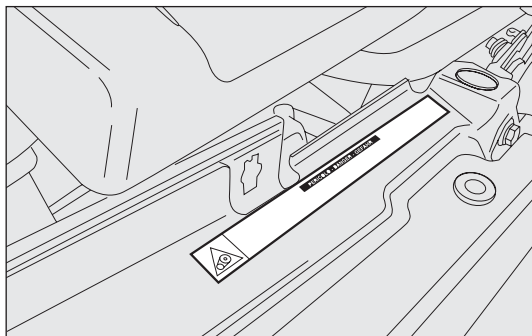

fig. 102
**Before opening the bonnet, make sure that the car is switched off and the key is in the OFF position. Follow the instructions on the plate near the front crossmember fig. 102. It is advisable to extract the key when there are other people in the car. The car should always be left after the key has been removed or turned to the OFF position. When refuelling, make sure that the car is switched off with the key in the OFF position.**